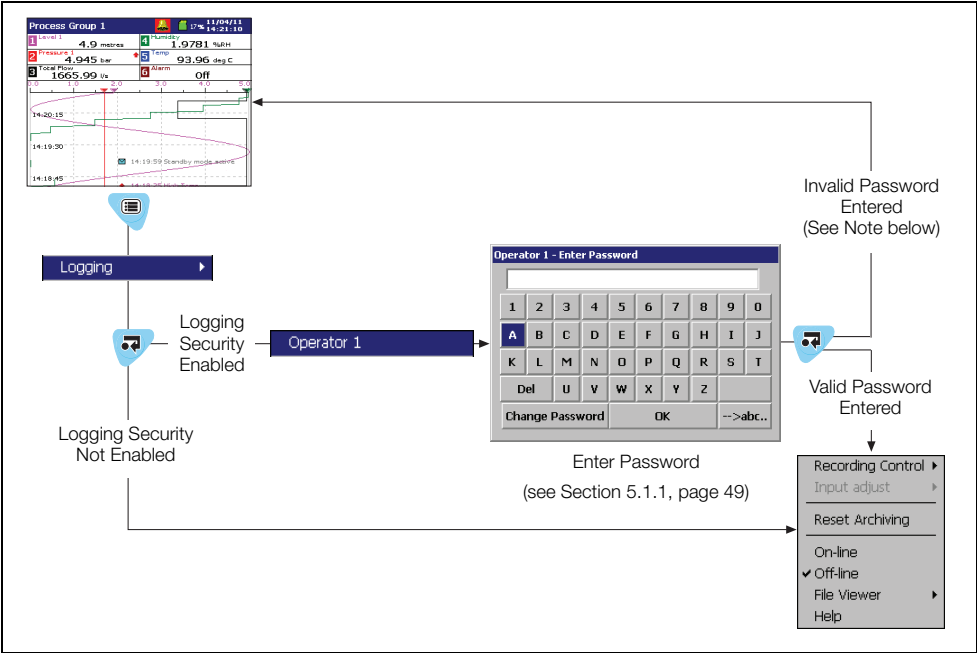

Fig. 5.2 Accessing Logging – Advanced Security
- If 'Security System' is set to 'Advanced' and 'Logging Security' is set to 'On', access to the Logging facility is protected by a unique password for each authorized user. Refer to Fig. 5.2, page 48 to access Logging.